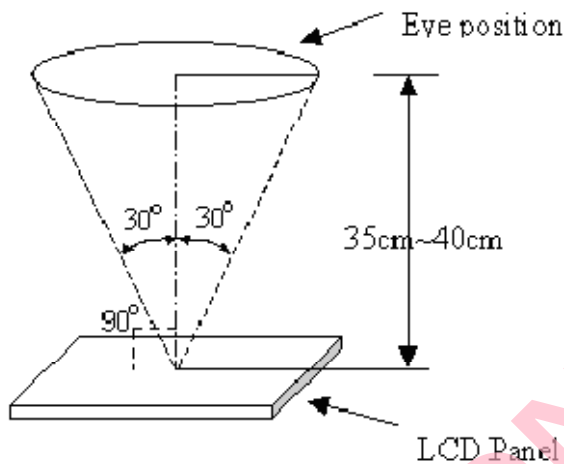

Figure 1
- (1) Viewing distance is approximately 30~ 40 cm.
- (2) Viewing angle is normal to the LCD panel as Figure 1(30°).
- (3) Ambient temperature is approximately $25 \pm 5^\circ\text{C}$
- (4) Ambient humidity is $60 \pm 5\%$ RH.
- (5) Ambient luminance is about 300 ~ 500 Lux under 40W daylight lamp.
- (6) Input signal timing should be typical value.
- (7) Mura, Light leakage, bright and dot dots inspection at ND-Filter 5%.